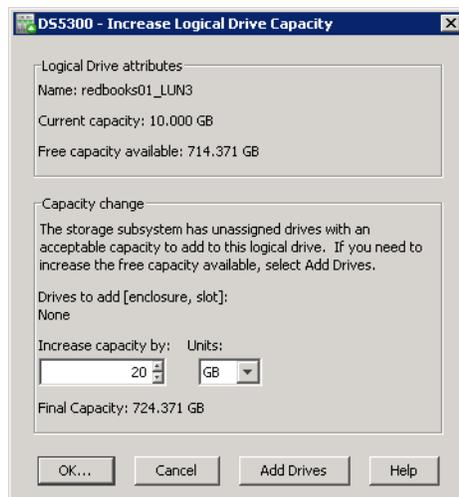

Figure 4-29 Increase logical drive capacity
- In the Increase Logical Drive Capacity window, Figure 4-29, enter the amount of space by which the logical drive will be increased.
In the top part of the window shown in Figure 4-29 on page 177, the current size of the logical drive and the available free capacity in the array are displayed. If no free configured space is available but there are unassigned drives, they can be added from this same window by clicking **Add Drives** before proceeding to enlarge the logical drive.